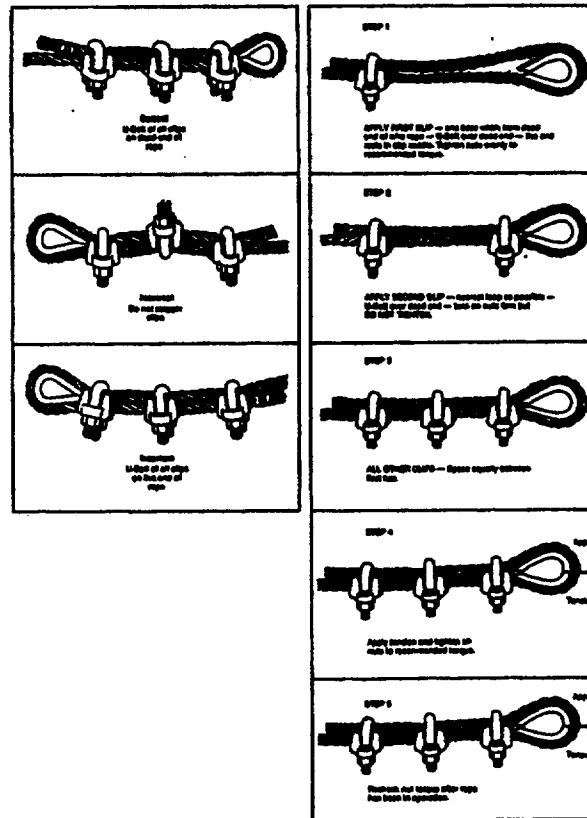

**Fig. 2-14 Applying wire rope seizing**
- (1) To make a seizing on wire rope, wind annealed iron seizing wire onto the rope by hand, keeping the coils tight, with considerable tension on the wire (**See Figure 2-14**).
- (2) Twist the ends of the wire together counter-clockwise, so the twisted portion of the wires is near the middle of the seizing.
- (3) Do not try to tighten the seizing by twisting; tighten the seizing by prying the twist away from the axis of the rope.
- (4) Tighten the twist again Repeat (3) and (4) as often as necessary to make the seizing tight. When done, cut off the ends of the wires and pound the twist close against the rope.